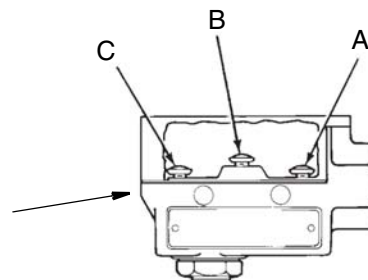

FIG. 16: Wire Switch
7. Place the switch adapter (304a) into the switch (304) and tighten securely.
9. Install the cover (9) on the reservoir (11).
10. Wire the switch (304) in accordance with local electrical codes. Refer to wiring diagram (FIG. 16).